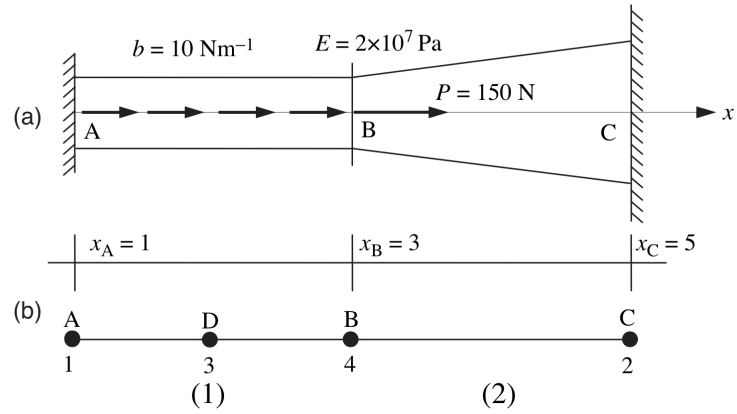

Figure 2: (a) Geometry, material properties, loads and boundary conditions for a bar with a variable cross-sectional area (b) the finite element model.
2. Given the one-dimensional elasticity problem as shown in Figure 2. The bar is constrained at both ends (A and C). Its cross-sectional area is constant ($A = 0.1 \text{ m}^2$) on segment AB and varies linearly $A = 0.05(x - 1)\text{m}^2$ on BC. The Young's modulus is $E = 2 \times 10^7 \text{ Pa}$. A distributed load $b = 10\text{Nm}^{-1}$ is applied along the left portion of the bar AB and point force $P = 150 \text{ N}$ acts at point B. The geometry, material properties, loads and boundary conditions are given in Figure 2a. Use a three-node element on AB ($n_{en} = 3$) and a two-node element on BC ($n_{en} = 2$) as shown in Figure 2b. The dimensions in Figure 2 are in meters.